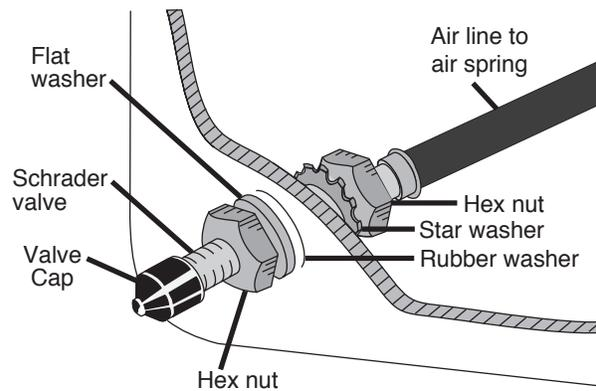

fig. 4
- Install the Schrader valves and washers (Fig. 4).